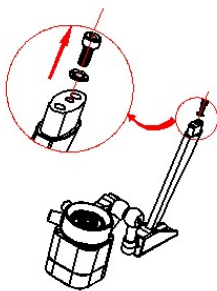

Figure 1
- 1) Unscrew one screw on the support column, as shown in Figure 1.